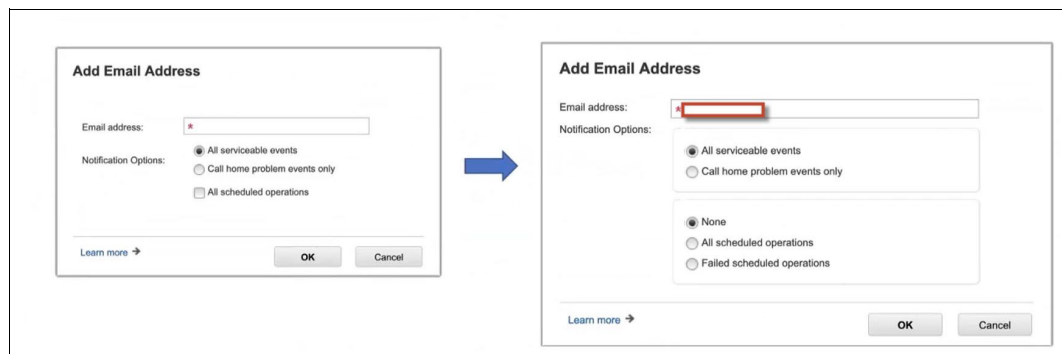

Figure 1-16 HMC alert feature
- ▶ Scheduled operation function: In the Electronic Service Agent, a new feature that allows customers to receive message alerts only if scheduled operations fail (see Figure 1-16).